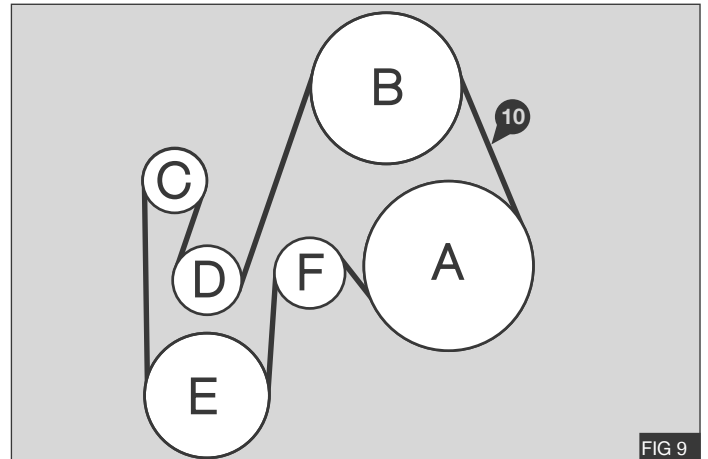

FIG 9
1. Install the supplied drive belt (10) as shown opposite - Fig 9